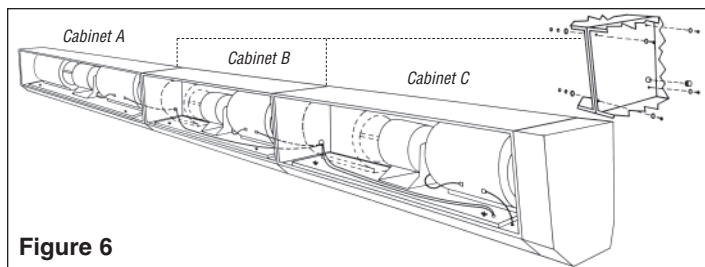

Figure 6
For 3 Cabinet Units: 108”, 120”, 132” and 144” See Figure 6, Page 6
- Determine mounting location of center cabinet (See Figure 6).
- Install motor/blower assembly (A) in Cabinet A. Pass pressure switch hose through proper hole on blower base. Attach hose to right blower. Secure two wing nuts on blower base. Reconnect motor (A) electric cord plug assembly.
- Install motor/blower assembly (B) in Cabinet B. Pass pressure switch hose through proper hole on blower base. Attach hose to right blower. Secure two wing nuts on blower base. Reconnect motor (B) electric cord plug assembly.
- Install motor/blower assembly (C) in Cabinet C. Pass pressure switch hose through proper hole on blower base. Attach hose to right blower. Secure two wing nuts on blower base. Reconnect motor (C) electric cord plug assembly.